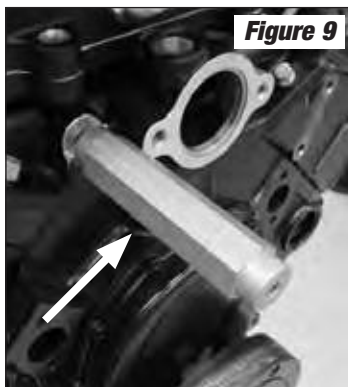

Figure 9
11. Thread the 5/16-18 x 1" set screw into the provision on the front of the manifold next to the thermostat housing. Then install the Hex Spacer onto the set screw (See Figure 9). **NOTE:** Supplied Hex Spacer may differ from the one in the image.